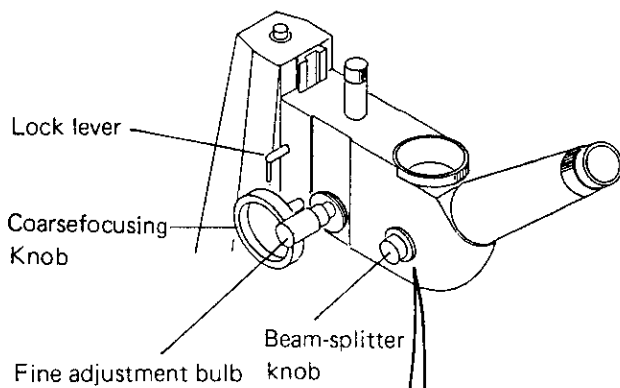

Fig. 12A
- b. Focus the objective on the specimen by rotating the large coarse focusing knob until the image of specimen is bright and clear. Then turn the Locking-lever to lock the body. (Fig. 12A)